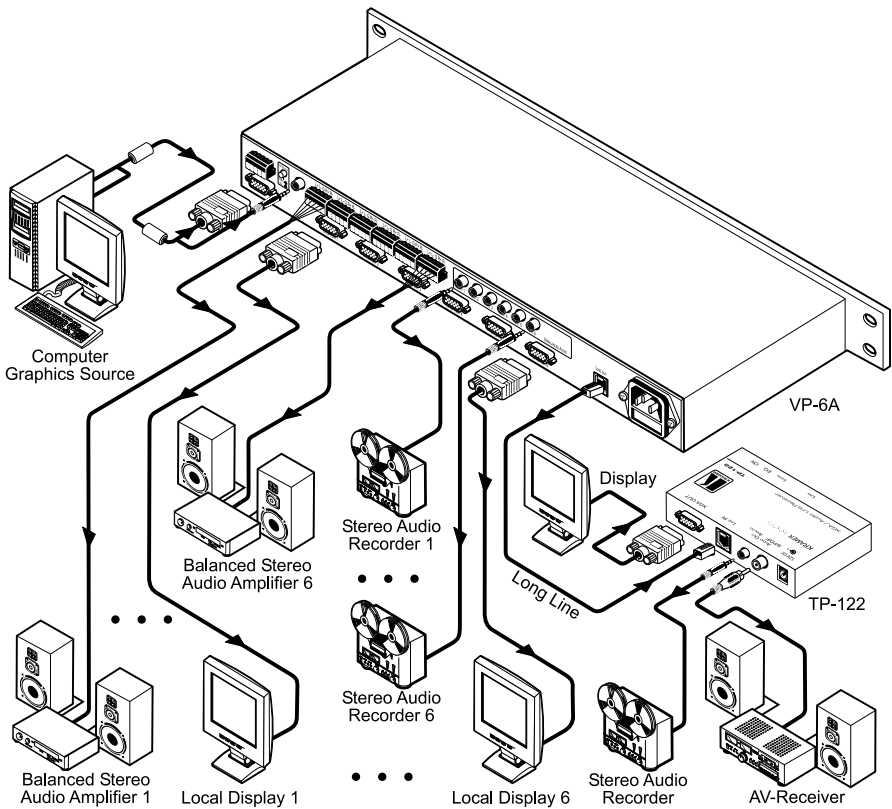

Figure 3: Connecting the VP-6A
The example in Figure 3 illustrates how to output a computer graphics signal (and audio) from a computer to up to six local monitors, as well as how to transmit it over UTP cabling to a **TP-122 XGA / Audio Line Receiver**.
5. Connect the power cord⁷ to the **VP-6A** (not illustrated in Figure 3).